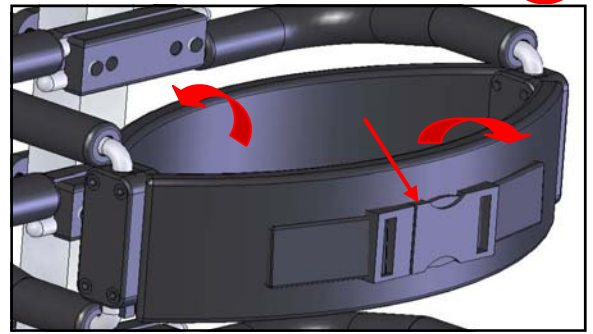

Figure 9
Refer to Figures 9 & 10.
1. To achieve forward tilt of the upper body, unfasten the trunk support straps, shorten the back strap, and lengthen the front strap. Lengthening the back strap and shortening the front strap tilts the upper body backward. Figure 9